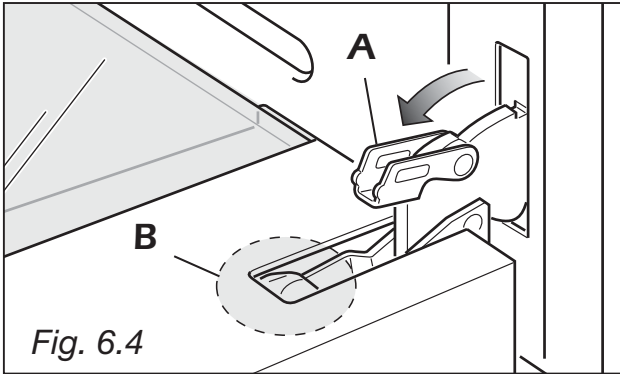
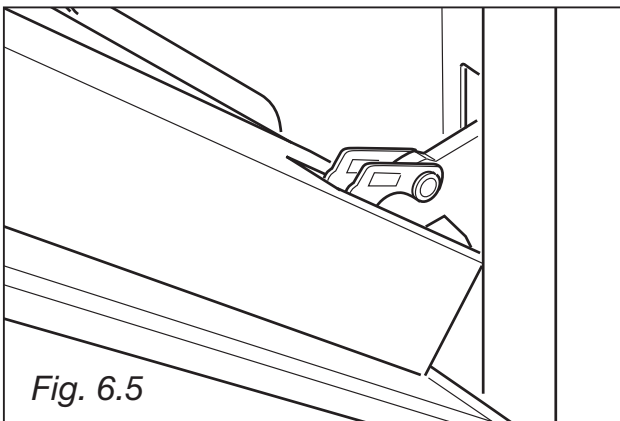

Fig. 6.4
Fig. 6.5
- Fully open the lever **A** on the left and right hinges. (fig. 6.4).
- Gently close the door (fig. 6.5) until the left and right hinges are hooked to part **B** of the door (fig. 6.4).
1. Make sure the door is locked open (see fig. 6.5).